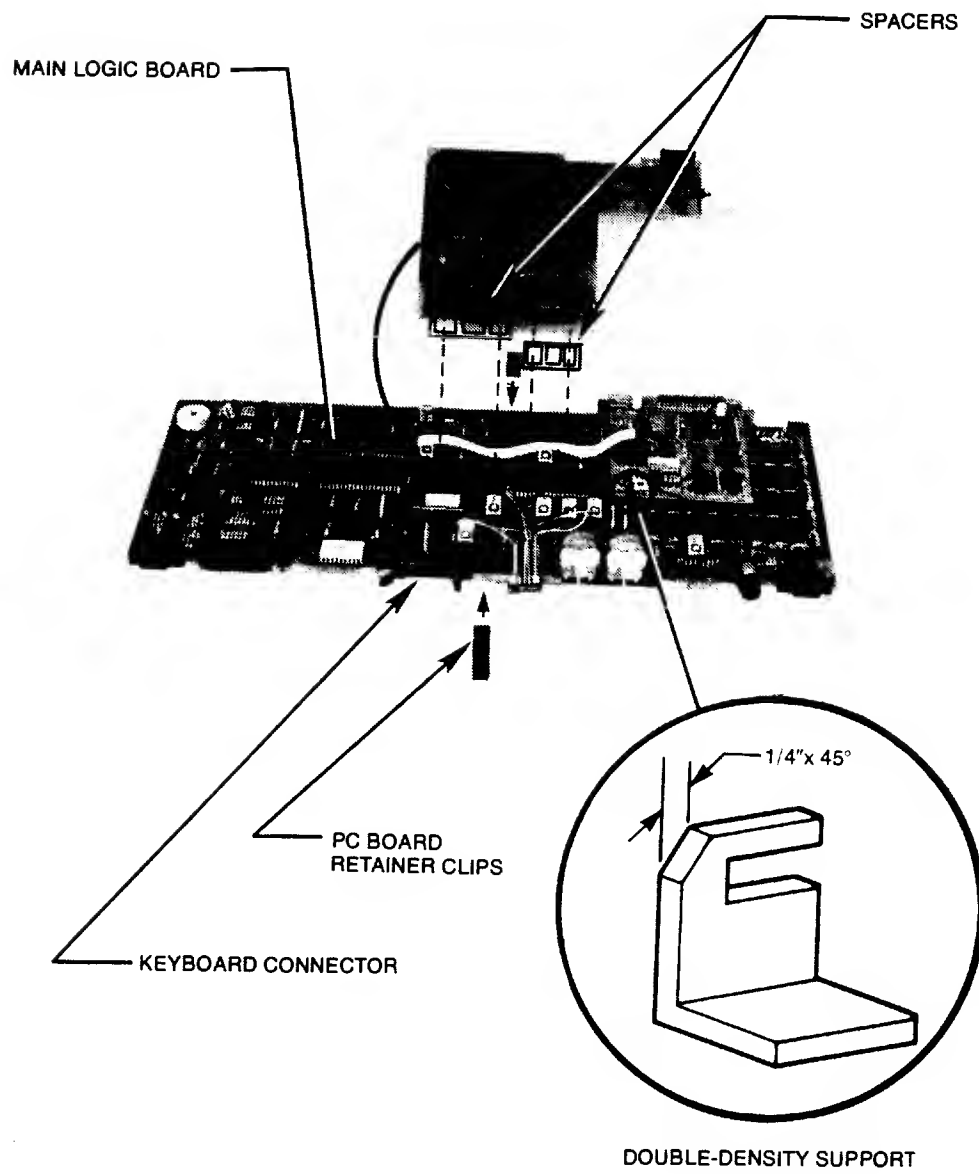

FIGURE 6-33. POSITIONING AND ALIGNMENT
- 6.12.3.1 Hold the SCREEN-PAC PC board component-side up and align it with the main logic board as follows (Figure 6-33):
- 6.12.3.3 Two retainer clips secure the SCREEN-PAC PC board to the main logic board (Figure 6-33).